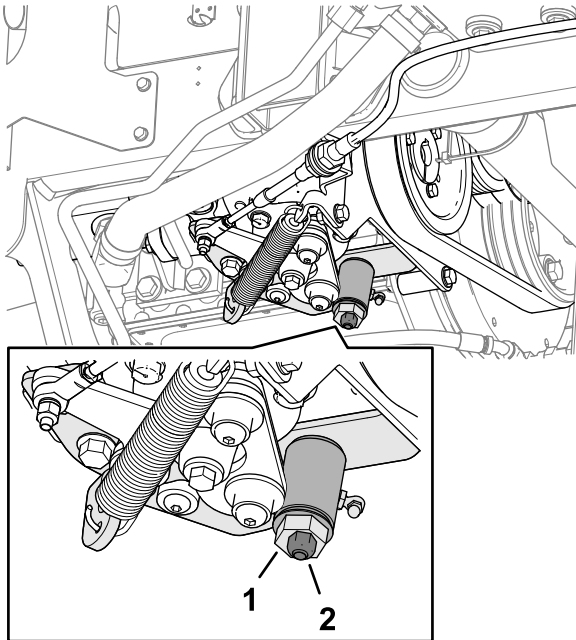

Figure 70
3. Loosen the locknut on the traction adjustment cam (Figure 70).